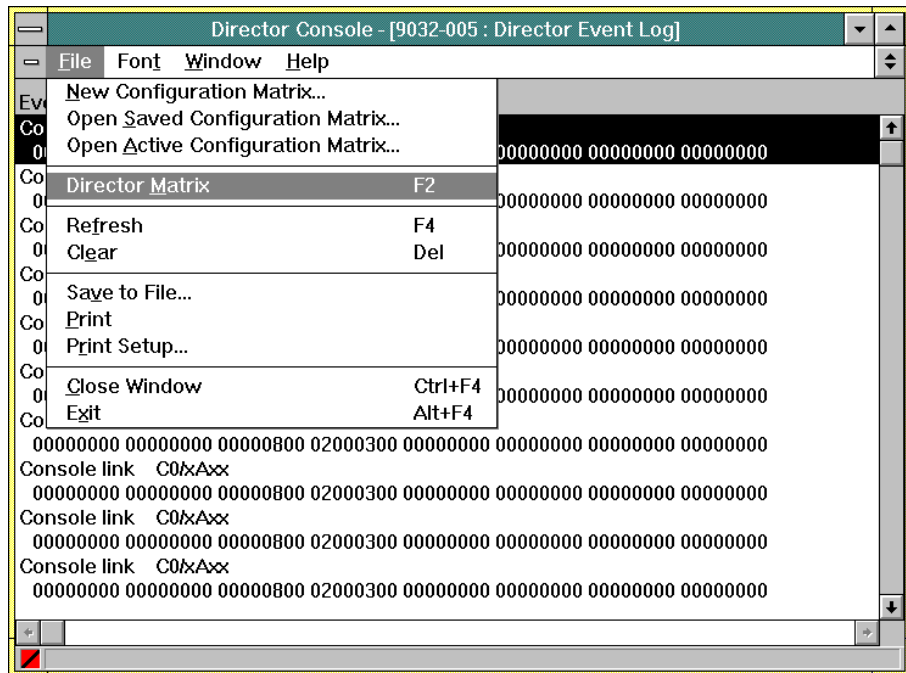

Figure 107. File Menu (Director LIN, Audit, and Event Logs)
*File* menu options (Figure 107) available from the *Director LIN*, *Director Audit*, and *Director Event* logs are: